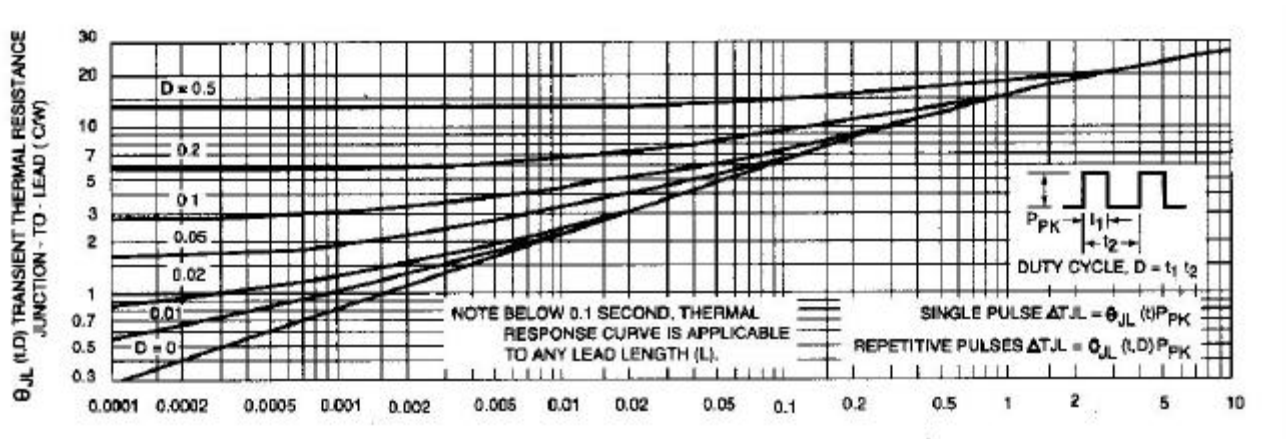
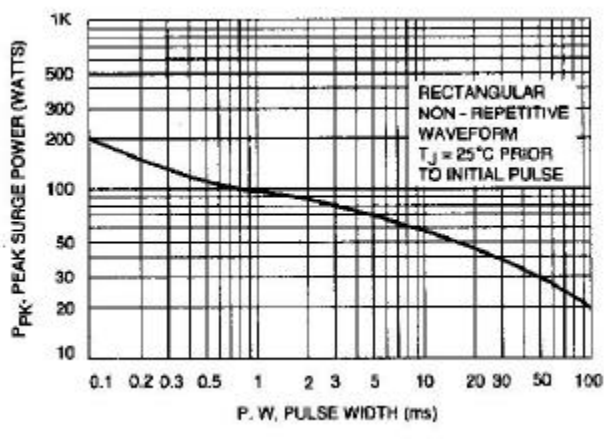
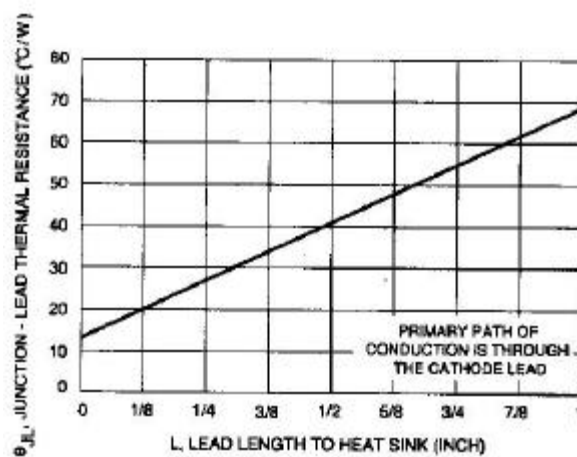

Fig. 2-TYPICAL THERMAL RESPONSE L
Fig. 3-MAXIMUM SURGE POWER
Fig. 10-TYPICAL THERMAL RESISTANCE
4. SURGE CURRENT (I_r) NON-REPETITIVE - The rating listed in the electrical characteristics table is maximum peak, non-repetitive, reverse surge current of 1/2 square wave or equivalent sine wave pulse of 1/120 second duration superimposed on the test current, I_{ZT} , per JEDEC standards, however, actual device capability is as described in Figure 3.
T_{JL} is the increase in junction temperature above the lead temperature and may be found from Figure 2 for a train of power pulses or from Figure 10 for dc power.
Data of Figure 2 should not be used to compute surge capability. Surge limitations are given in Figure 3. They are lower than would be expected by considering only junction temperature, as current crowding effects cause temperatures to be extremely high in small spots resulting in device degradation should the limits of Figure 3 be exceeded.